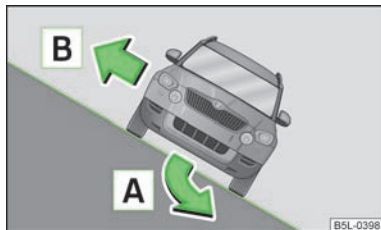

Fig. 139
If there is a risk your vehicle may tilt, steer immediately in direction of dip **A** and lightly depress the accelerator » Fig. 139.
If the vehicle comes to a standstill at a steep angle on a hillside and you and your passengers must exit the vehicle, then all the occupants should exit on the side facing up the hill **B** » Fig. 139.
- Before driving at an angle on a hillside **A** » Fig. 139, ensure that you can steer and maintain your trajectory. If you drive at an angle on a hillside and there is a risk your vehicle may tilt, steer immediately downhill on your trajectory and lightly depress the accelerator.
- In case the vehicle is stationary on a hillside at a steep angle, do not exit the vehicle when it is facing downhill. Always leave the vehicle carefully on the side facing downhill **B** » Fig. 139.